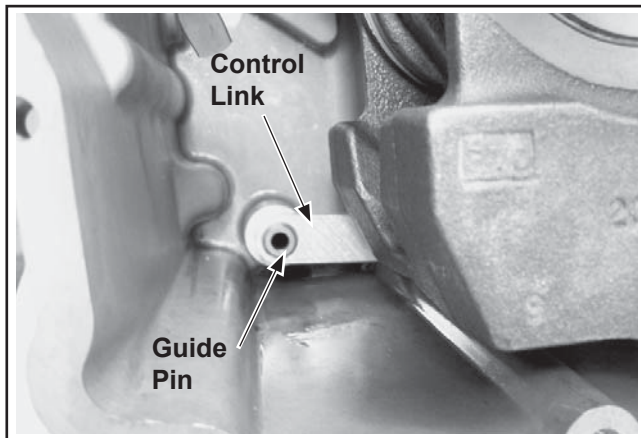

**Figure 10-18. Installed Guide Shoe (Above Serial No. 3618005223).**
4. Install the balance weight guide shoe onto the guide pin with the solid end toward the crankshaft. See Figure 10-18.